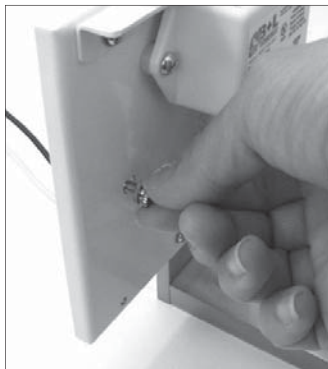

Figure 1
Step 3 Remove universal mounting plate from back of fixture. (Figure 1) Install mounting plate to J-box using mounting screws provided, routing wires through center hole of mounting bracket.